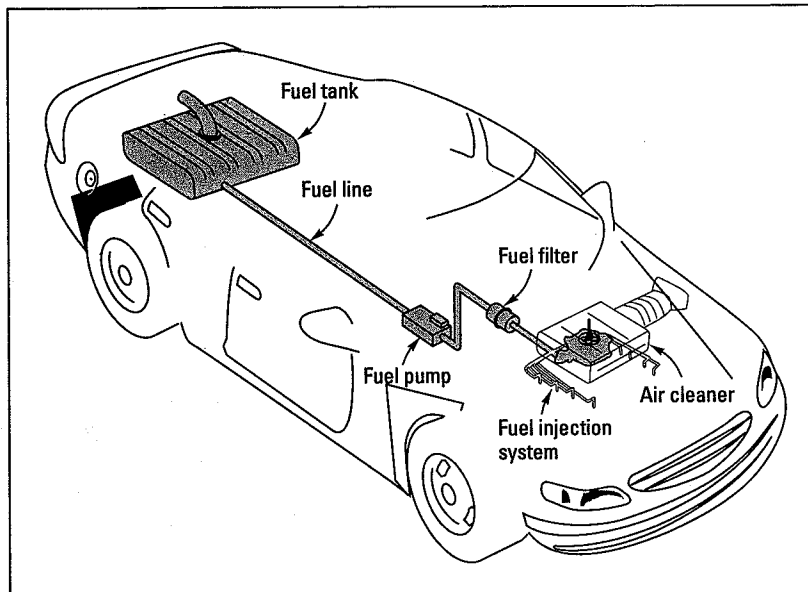

Figure 4-2:
3. Once the engine is running, fuel (gasoline) flows from the fuel tank at the rear of the car, through the fuel lines, to the fuel pump under the hood. (See Figure 4-2.) Chapter 6 explores the fuel system in detail, and Chapter 13 shows you how to keep it in tune.